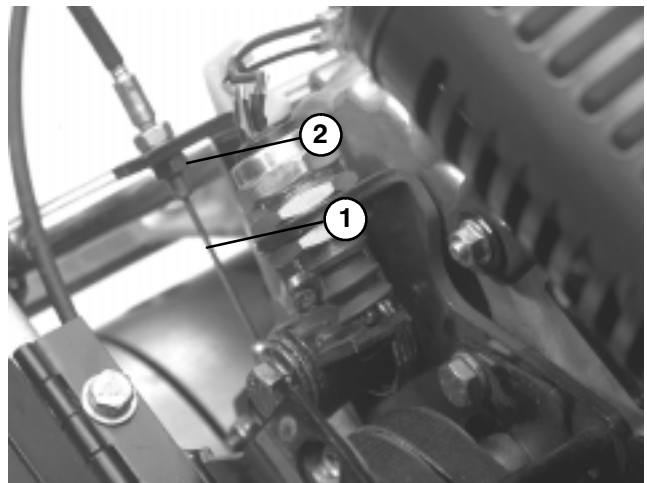

Figure 41
3. To increase cable tension, loosen front cable jam nut and tighten back cable jam nut (Fig. 41) until a force of 3–5 lbs. is required to engage traction control. Force to be measured at control knob.
3. To increase cable tension, loosen front cable jam nut and tighten back cable jam nut (Fig. 41) until a force of 3–5 lbs. is required to engage brake. Force to be measured at lever knob. Do not over adjust, so brake band drags.